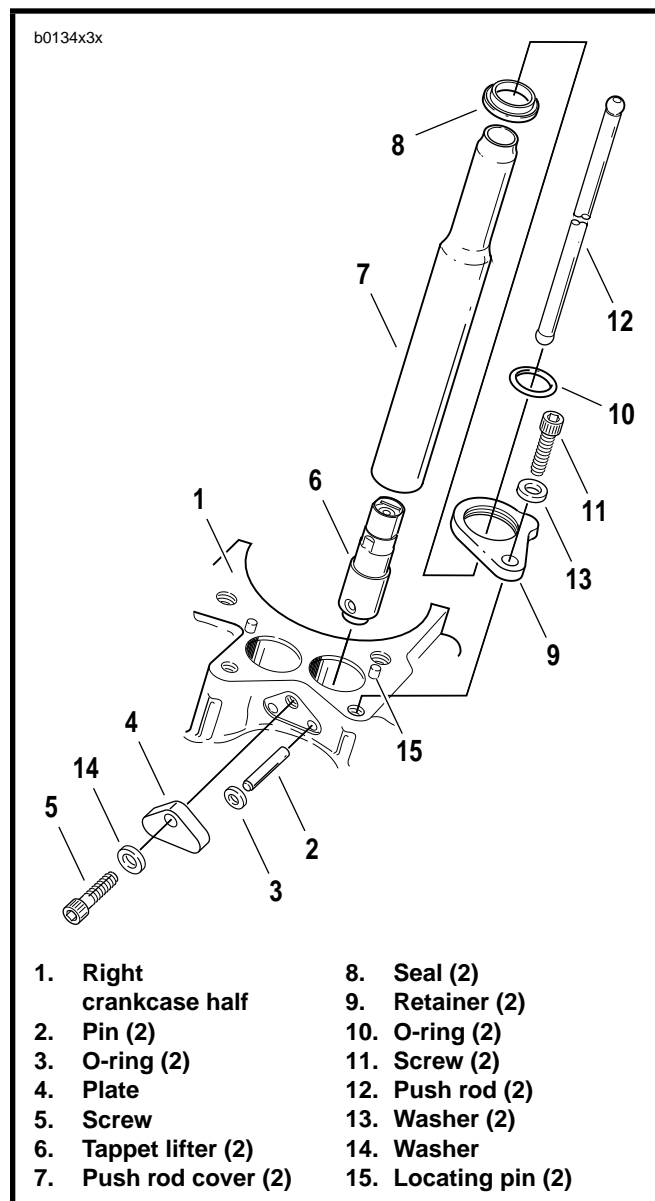

Figure 3-50. Valve Tappet Service
3. See Figure 3-50. Remove screw (11) and washer (13). Lift retainer (9) and seal (8) upward a few inches on push rod cover (7). Push upward on push rod cover while pulling bottom of cover (7) clear of crankcase. Remove cover (7).
4. Remove screw (5), washer (14), and plate (4). Pull O-rings (3) off ends of pins (2) and discard. Grasp ends of pins (2) and pull outward free of crankcase. A pliers is a handy tool to free pins (2). With a thin-bladed screwdriver in the retainer groove at the top of the tappet, pry upward on the tappet until it extends above the gearcase and can be pulled out by hand.
1. See Figure 3-50. Rotate engine so that both tappets (6), from the cylinder being serviced, will be installed on the base circle (lowest position) of the cam.
3. Insert tappet (6) into bore in crankcase (1). Rotate tappet so that flats at upper end of tappet face the front and rear of the engine. If the tappet is installed incorrectly, pins (2) cannot be inserted.
4. Insert pins (2) in the holes in crankcase. Place **new** O-rings (3) over ends of pins. Install plate (4) using screw (5) with washer (14). Tighten screw (5) to 80-110 **in-lbs** (9.0-12.4 Nm).
5. Slide **new** seal (8) and place retainer (9), over top of push rod cover (7). Position **new** O-ring (10) at top of push rod cover. Hold cover at an angle and insert top through hole in cylinder head. Push up on cover while aligning bottom of cover with tappet bore in crankcase. Lower retainer (9) with seal (8) onto crankcase, aligning locating pin (15) with hole in retainer.
6. Insert screw (11) with washer (13) through hole in retainer (9), and thread into tapped hole in crankcase. Tighten screw (11) to 15-18 ft-lbs (20-24 Nm).